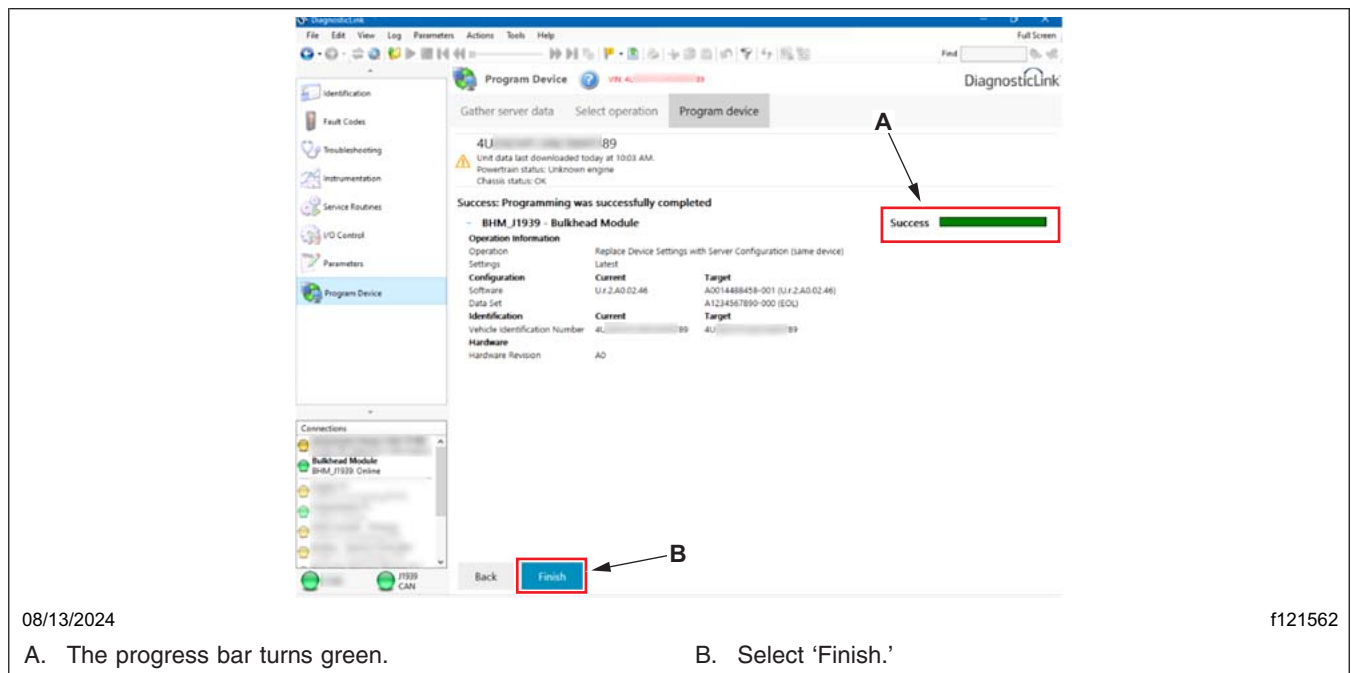

Fig. 5, Programming Successfully Completed
12. Once the programming is successfully completed, the progress bar on the right-hand side of the window turns green. Select 'Finish.' See Fig. 5.